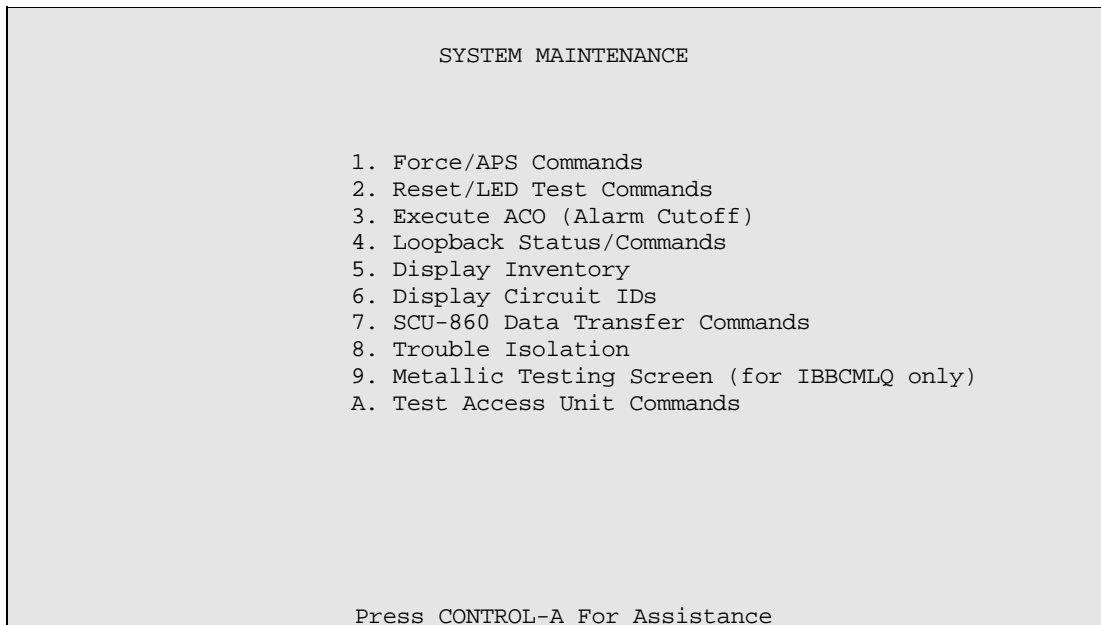

Figure 4. System Maintenance Menu
3. Use the arrow or number keys to select System Maintenance from the Main Menu. Press Enter or Return. The System Maintenance menu will appear as shown in Figure 4.